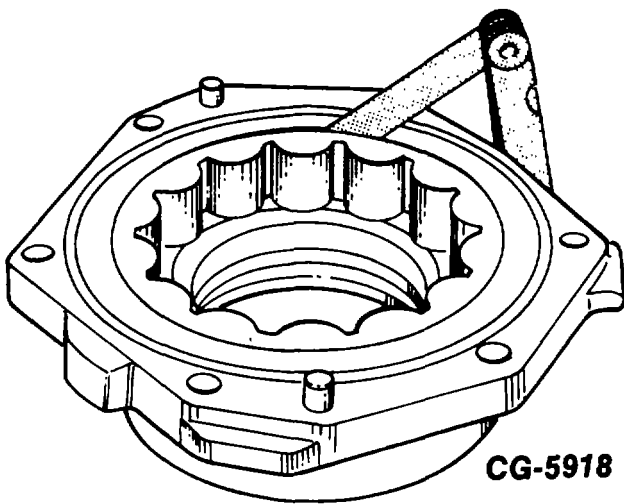

Figure 9. - Checking Radial Clearance
2. Check the radial clearance between the outer rotor (1, Fig. 9), and the pump housing (2) with a feeler gauge, as shown.